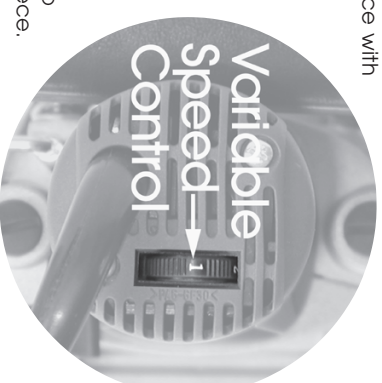

Fig. 9
3. Switch the router on, (push ON/Off switch down until it latches, see Fig. 8), allow the motor to reach the full speed selected. (Speed control is located on the top of the router, turn to higher number to increase the speed), (see Fig. 9).